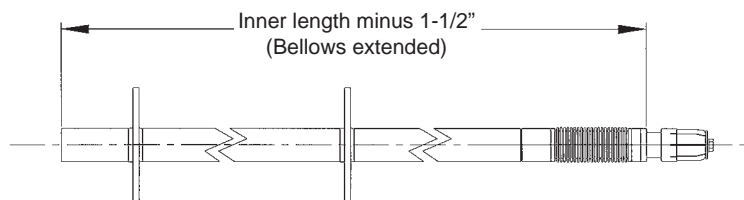

Figure 2
7. Subtract 1.5" (for inner cutback) from outer conductor measured length. This is the required length of the inner conductor with bellows extended. Refer to Figure 2.